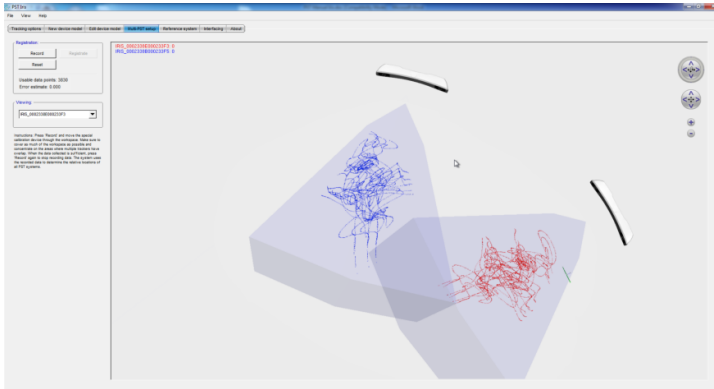

Figure 7.17: PST client in registration mode
3. When approximately 500 points per PST unit have been collected, press the record button again to stop recording data. The registration window shows the recorded data points and the field of view of the PST units. Note that at this time, the position and orientation of the PST units may still be incorrect. Check that all PST units have a set of 3D points, drawn in a different color for each unit (see Figure 7.17).